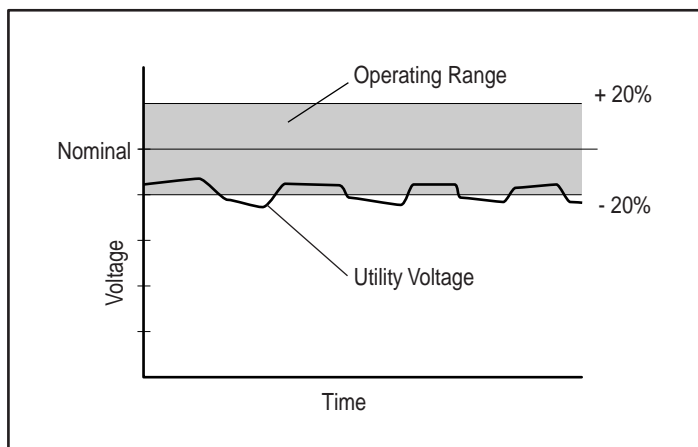

Figure 4-5. Utility voltage fluctuation indicating a shift in nominal voltage range may be necessary
- If the utility voltage differs from the currently configured nominal voltage, but stays within a $\pm 20\%$ band (see Fig 4-5), consider shifting the nominal voltage parameter selection to match the measured utility voltage range.